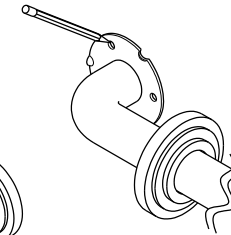

Fig. 3
- Step 3. Place grab bar at desired location and mark the location of the holes with a pencil or marker. Make sure that location of grab bar is structurally safe to support weight; if necessary, reinforce by installing a brace inside the wall. (Fig. 3)